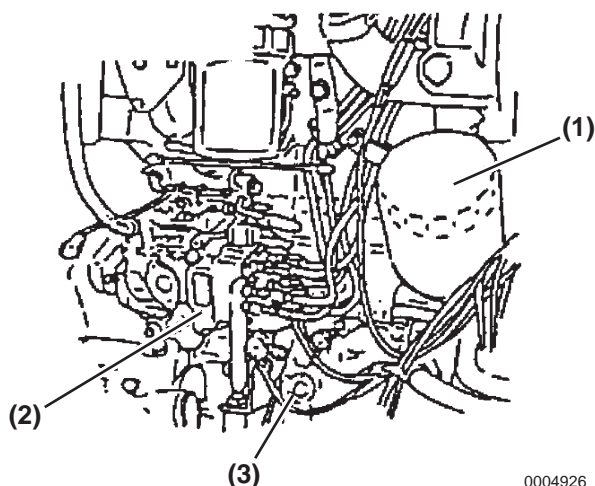
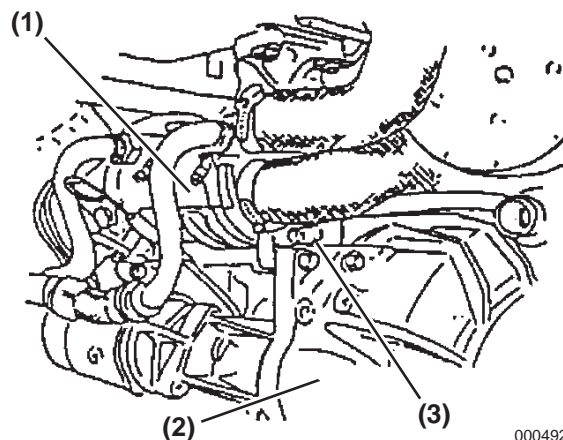

Figure 5-4
Figure 5-5
1. Open the cooling water drain cocks as shown in **Figure 5-4**, **Figure 5-5** and **Figure 5-6**.